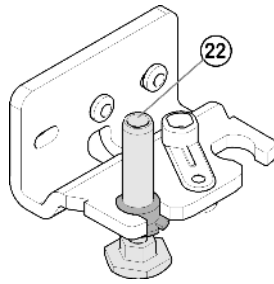

Fig. 7
- ▶ Tip the appliance back a little again and re-insert the bearing pin Fig. 7 (22). The notch must point forwards.